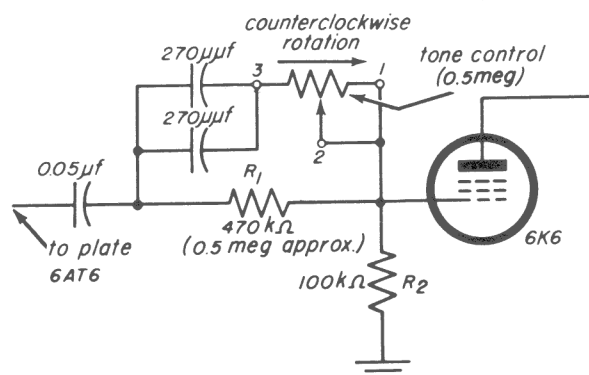

Fig. 35-10
Information. A schematic of this circuit is shown in Fig. 35-10. The filter is in the path of the forward-going signal. Signal voltage of all but the treble range of frequencies is attenuated by the voltage-divider, consisting of R_1 in series with R_2 . The voltage divides between R_1 and R_2 . That portion of the signal voltage which is develop-
Step 8. Connect your 100 k-ohm $\frac{1}{2}$ -watt fixed resistor from pin 5 to pin 2 of the 6K6. The circuit is now wired as shown in Fig. 35-10.